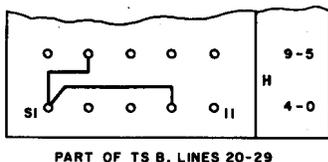

Fig. 9—Two-Way Nonsequential Hunting Group Consisting of Station Lines 21, 24, and 28
2.11 A two-way nonsequential hunting group is formed by providing straps between the H terminals of the lines included in the group (Fig. 9).